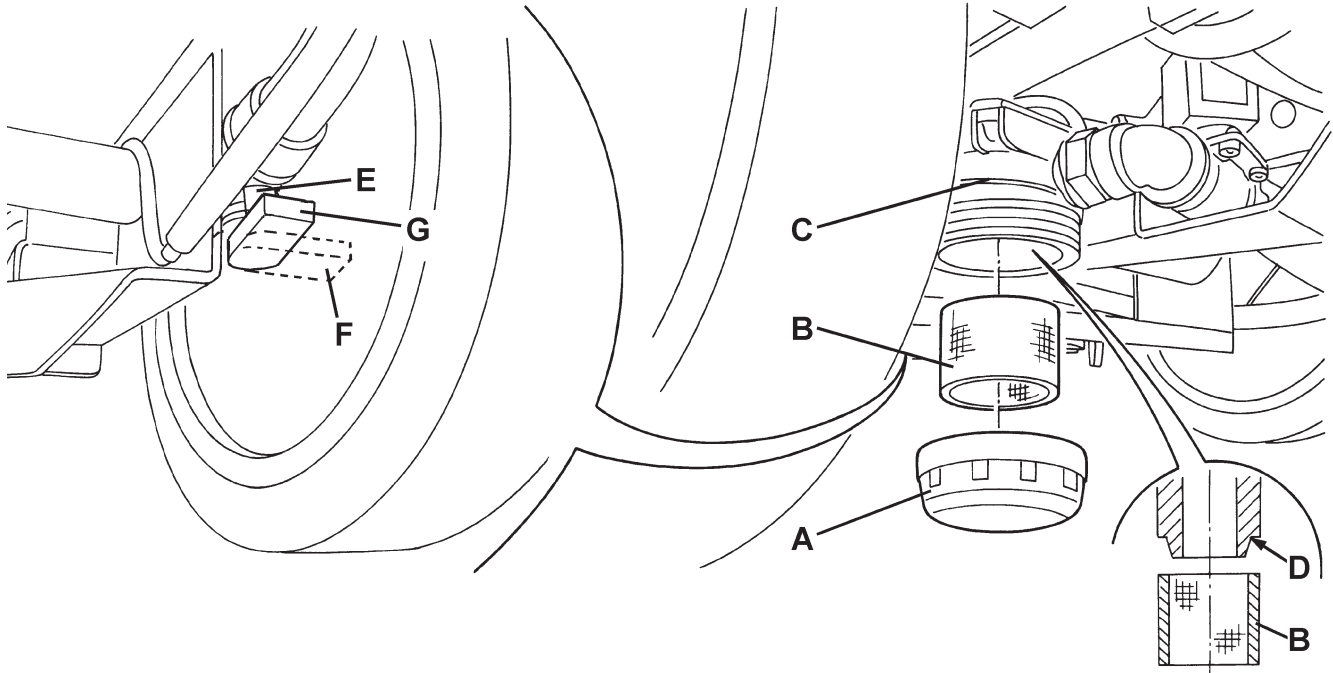

Figure 6
2. Turn the ignition key (41) to "0".
3. Close the solution tap (E, Fig. 6) under the machine, behind the right rear wheel. The tap (E) is closed when it is in the position (F) and it is open when it is in the position (G).
4. Remove the transparent cover (A), then remove the filter strainer (E) under the machine, in front of the right rear wheel. Clean and install them on the support (C).